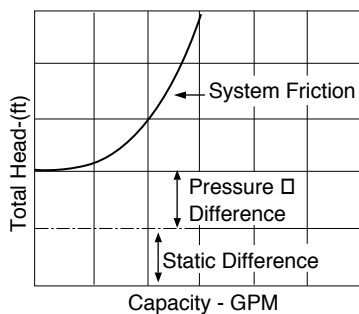

FIGURE 55. System Curve of a Simple Pump System with a Difference in Elevation and Pressure
- Extra energy (head) must be added to the liquid to overcome the pressure differential between Point A and B. This can be seen on the system curve in Figure 55 as a movement of the system curve up the head ordinate.
- The system curve in Figure 55 shows that the pump is required to produce a 165 ft head at 275 gpm US. Using a pump manufacturer's manual, a pump that meets or exceeds these parameters is then selected. The selected pump generates 172 ft head at 275 gpm. The curve of the selected pump is now superimposed over the system curve (Figure 58).